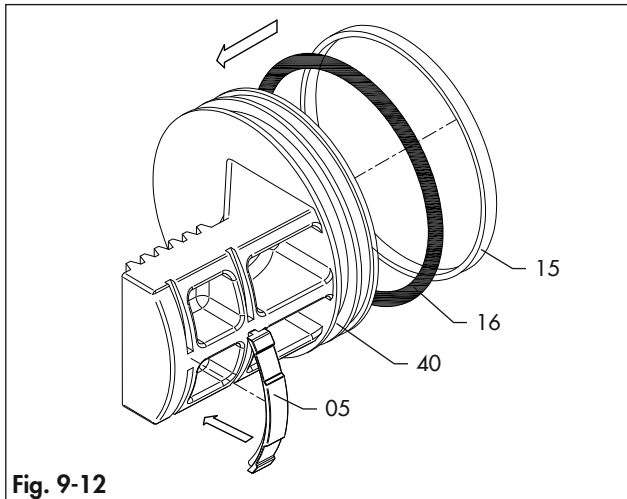
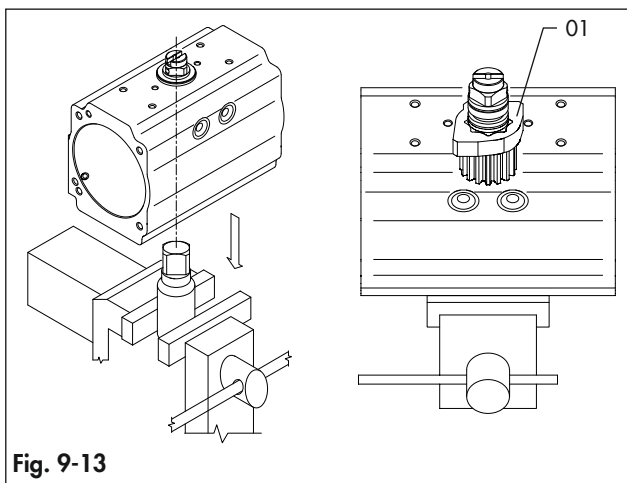
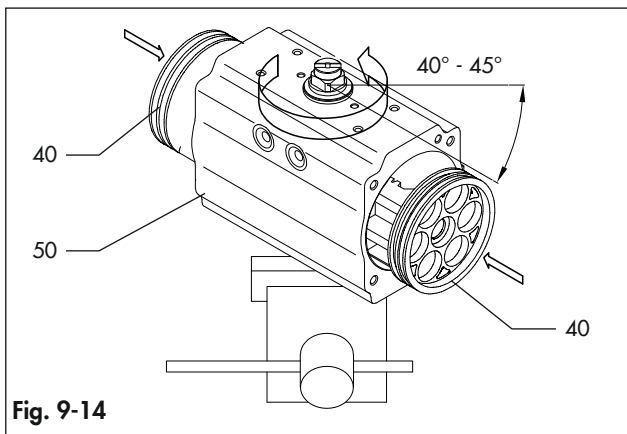

Fig. 9-12
Fig. 9-13
Fig. 9-14
Refer to Fig. 9-1, Fig 9-12, Fig 9-13 and Fig 9-14.
- Lubricate and place onto the pistons (40) the o-rings (16), piston backs (05) and the head bearings (15).
- Lubricate the internal surface of the body (50) and the piston (40) rack teeth.
- Insert the female connection of the drive shaft (60/60.1) in a properly fixed coupling joint. (Fig. 9-13)
- Make sure that the octi-cam (01) is in the right position as per the Fig. 9-13.
- Rotate the body (50) about 40°-45° clockwise from top view, as shown in Fig. 9-14.
- Insert and press the two pistons (40) simultaneously inside the body (50) until the pistons are engaged.
- Then rotate the body (50) anticlockwise from top view until the stroke is completed.